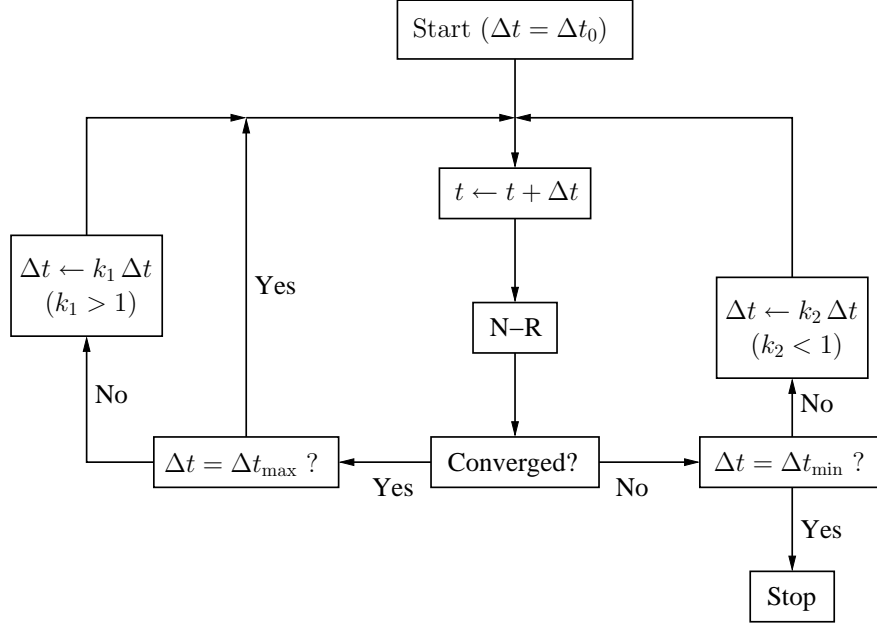

Figure 23: Flow chart for auto step methods based on convergence of N-R iterations.
chart of Fig. 23. For a given value of Δt , if the N-R method converges (in `itmax_newton` iterations), we accept the solution and make the next value of Δt larger than the present value, up to a maximum of `delt_max`. If the N-R method does not converge, we reduce the time step and try again. If there is no convergence with the smallest allowed time step (`delt_min`), the program stops. The following parameters control the time step.
- * `fctr_stepred` (optional, default=0.05): factor (k_2 in Fig. 23) by which the time step is reduced if the N-R process does not converge.
- * `fctr_stepinc` (optional, default=1.5): factor (k_1 in Fig. 23) by which the time step is increased if the N-R process converges.
- (b) `trapezoidal_auto` method: This method uses the same flow chart (see Fig. 23) and parameters as the `back_euler_auto` method.
- (c) `trbdf2` method: If the problem is linear, it is solved directly, and not by employing an iterative method. Therefore, a convergence-based method, such as that shown in Fig. 23, is ruled out. In such cases, we can use an approach based on an estimate of the local truncation error (LTE). In the TR-BDF2 scheme [9], the time step Δt_{i+1} (i.e., the interval between t_i and t_{i+1}) is divided into two parts:
If the error is found to be too large, the previous time step is rejected, the TR-BDF2 step is carried out with a smaller time step, and the error is calculated again. The time step may again be accepted or rejected, depending on the error. The basic idea is much the same as that depicted in Fig. 23 except that the estimate of LTE is used (rather than convergence of the N-R process) for deciding whether to accept or reject the given time step. More details of the method may be found in [9]. The following parameters are applicable for the `trbdf2` method.